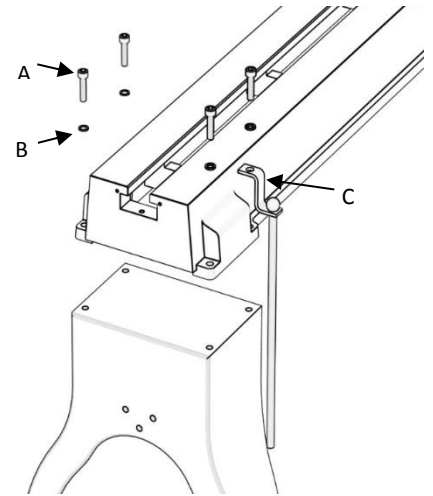

Fig. 1
6. Attach legs to bed using all 8 supplied M10 socket head cap screws (A) and spring washers (B), one leg at a time (see Fig. 1).
- Knockout bar holder (C) can be installed using any of the included M10 socket head cap screws.